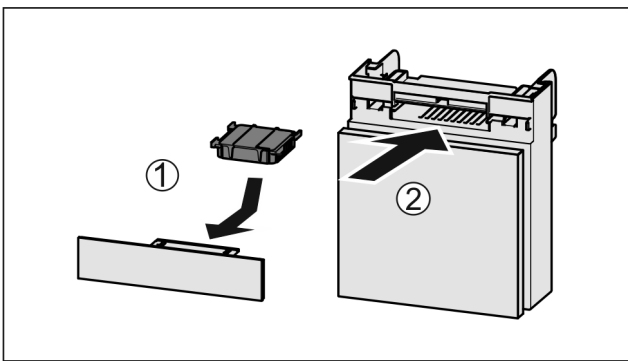

Fig. 94
- ▶ Insert the carbon filter as shown in the diagram Fig. 94 (1).
- ▶ Push the compartment in Fig. 94 (2).